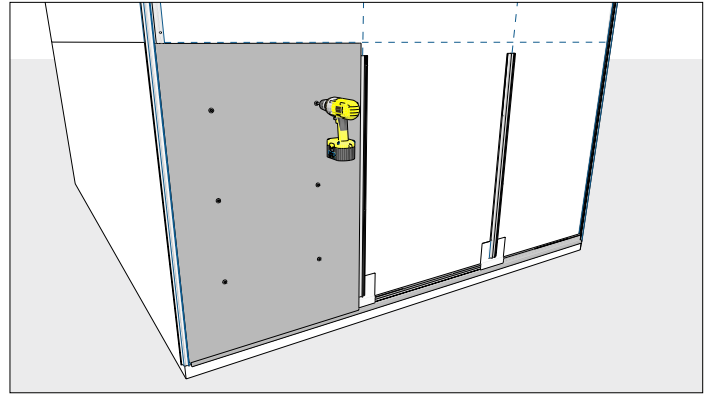

Figure 15.4
10. Fasten the panel's to the wall as per fiber cement manufacturers specifications (Figure 15.4).